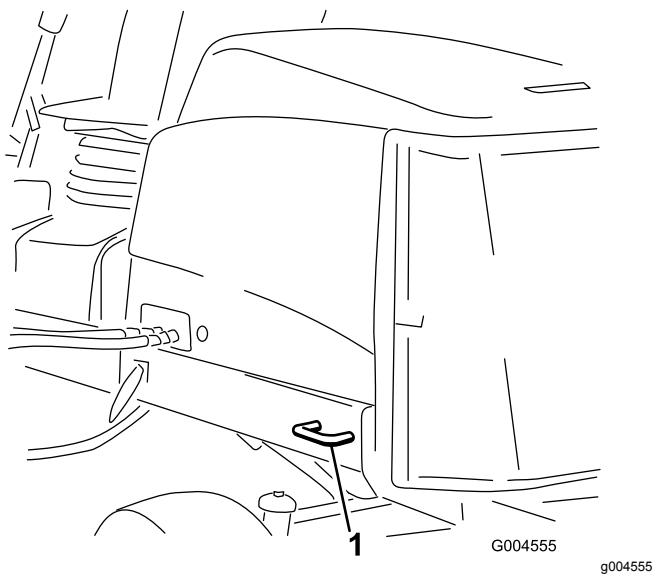

Figure 58
- Rear—each side of the machine on the rear frame (Figure 58).